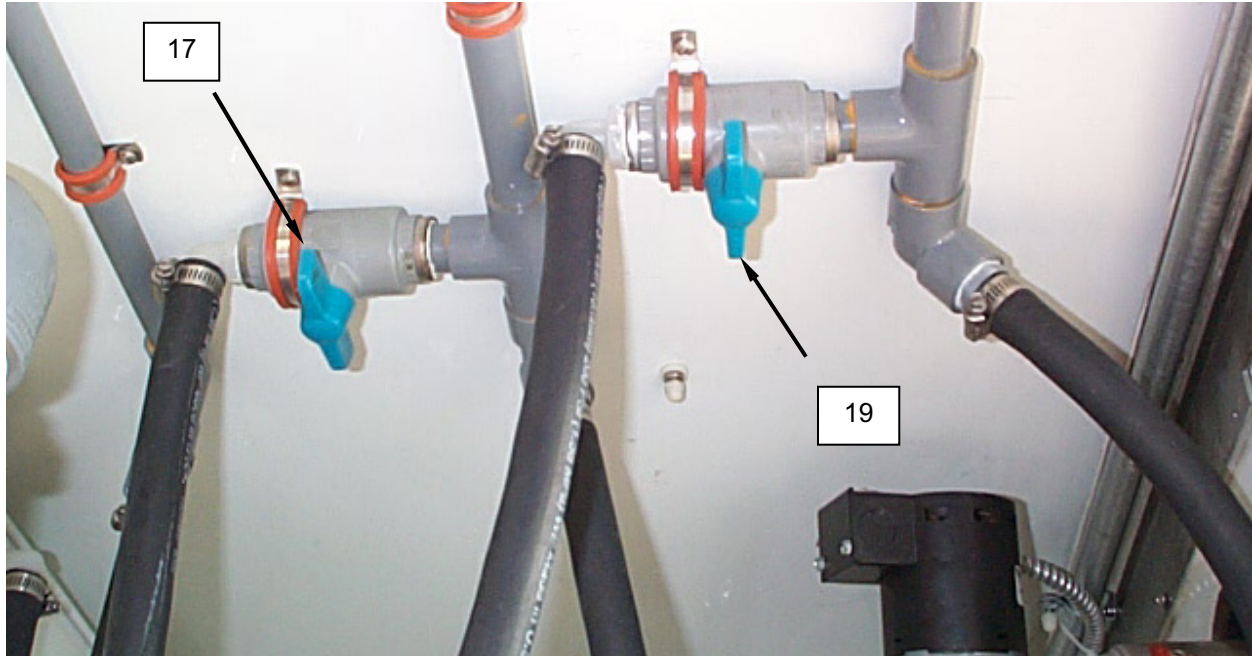
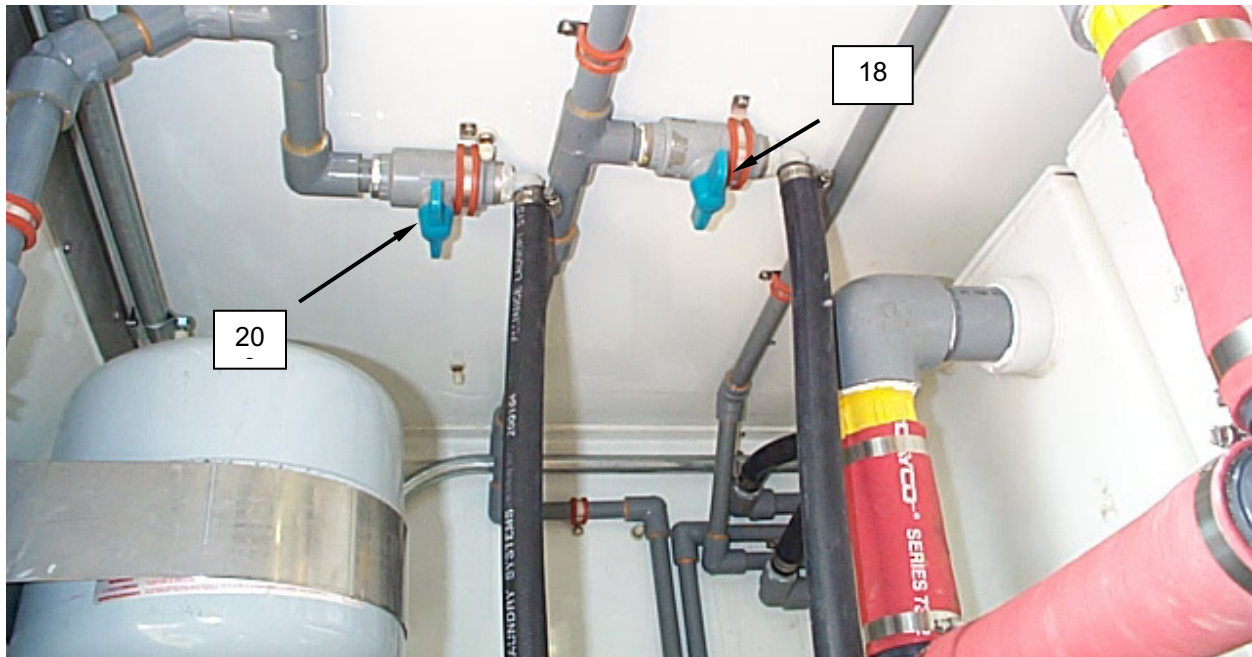
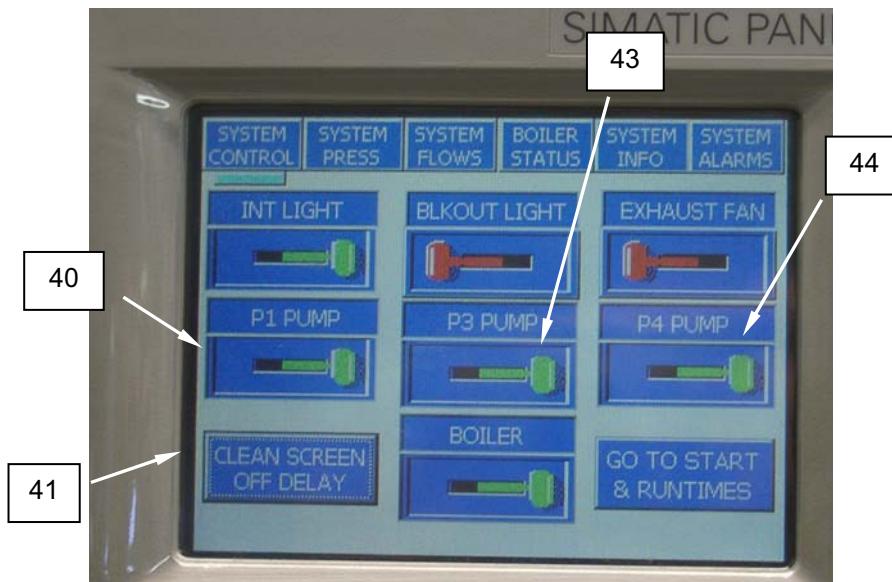

Figure 11. Hot and Cold Water Shutoff Valves (V-5 and V-6) for Washer No. 1.
Figure 12. Hot and Cold Water Shutoff Valves (V-7 and V-8) for Washer No. 2.
Figure 21. Switching the Pumps ON.
8. Open the hot water shutoff valves V-5 (**Figure 11, Item 17**) and V-7 (**Figure 12, Item 18**), and cold water shutoff valves V-6 (**Figure 11, Item 19**), and V-8 (**Figure 12, Item 20**) to both washers.
1. Ensure the P-1 Pump switch (**Figure 21, Item 41**) on the PLC Control Panel (**Figure 12, Item 42**) is in the ON position. The indicator will flip to the right and turn green when the switch is ON.
2. Switch the P-3 Pump (**Figure 21, Item 43**) and P-4 Pump (**Figure 21, Item 44**) on the PLC Control Panel (**Figure 21, Item 42**) to the ON position. The indicator will flip to the right and turn green when the switch is ON.